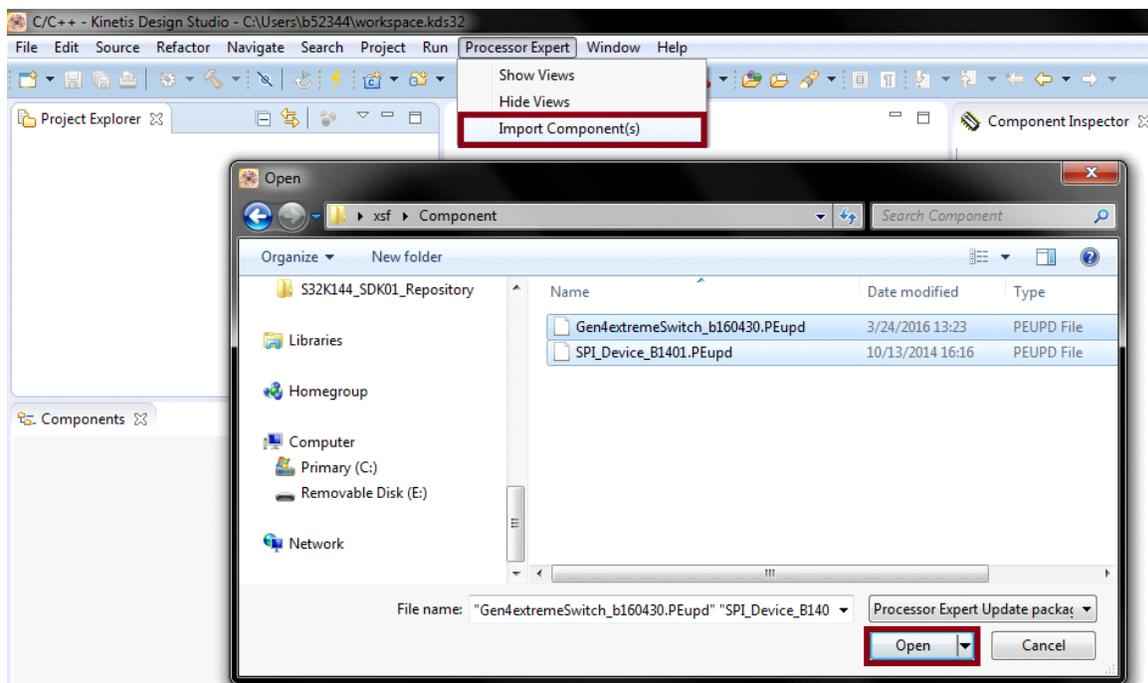

Figure 7. Import the Gen4eXtremeSwitch components
2. In the pop-up window, locate the component file (.PEupd) in the folder Gen4eXtremeSwitch\_PEx\_SWComponents. Select the **Gen4eXtremeSwitch\_bxxxx.PEupd** and **SPI\_Device\_bxxxx.PEupd** files. Then click **Open** (see Figure 7).